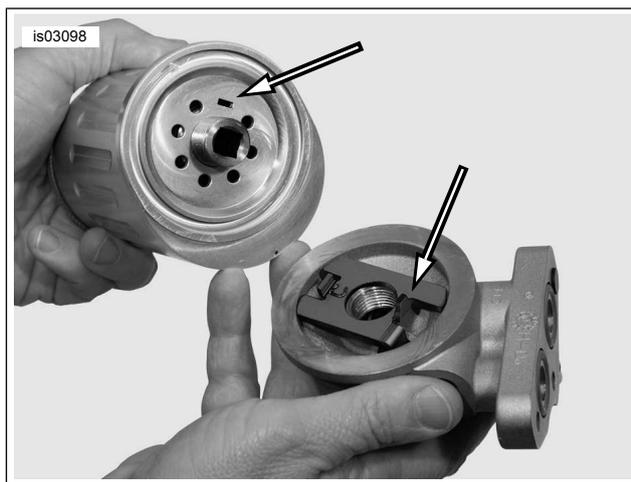
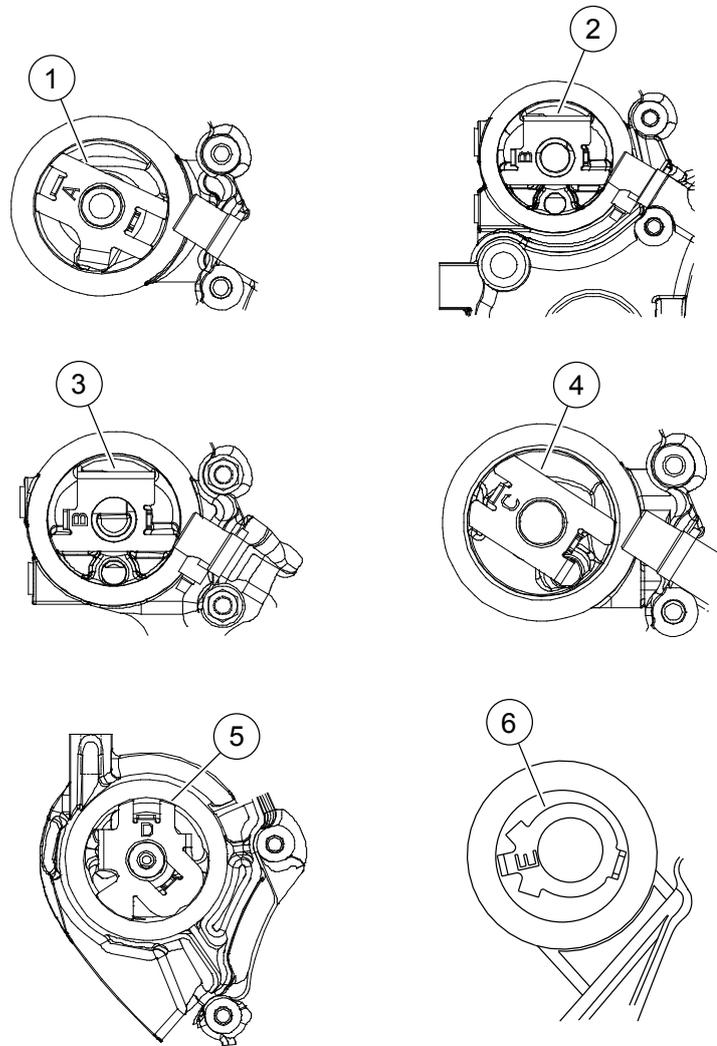
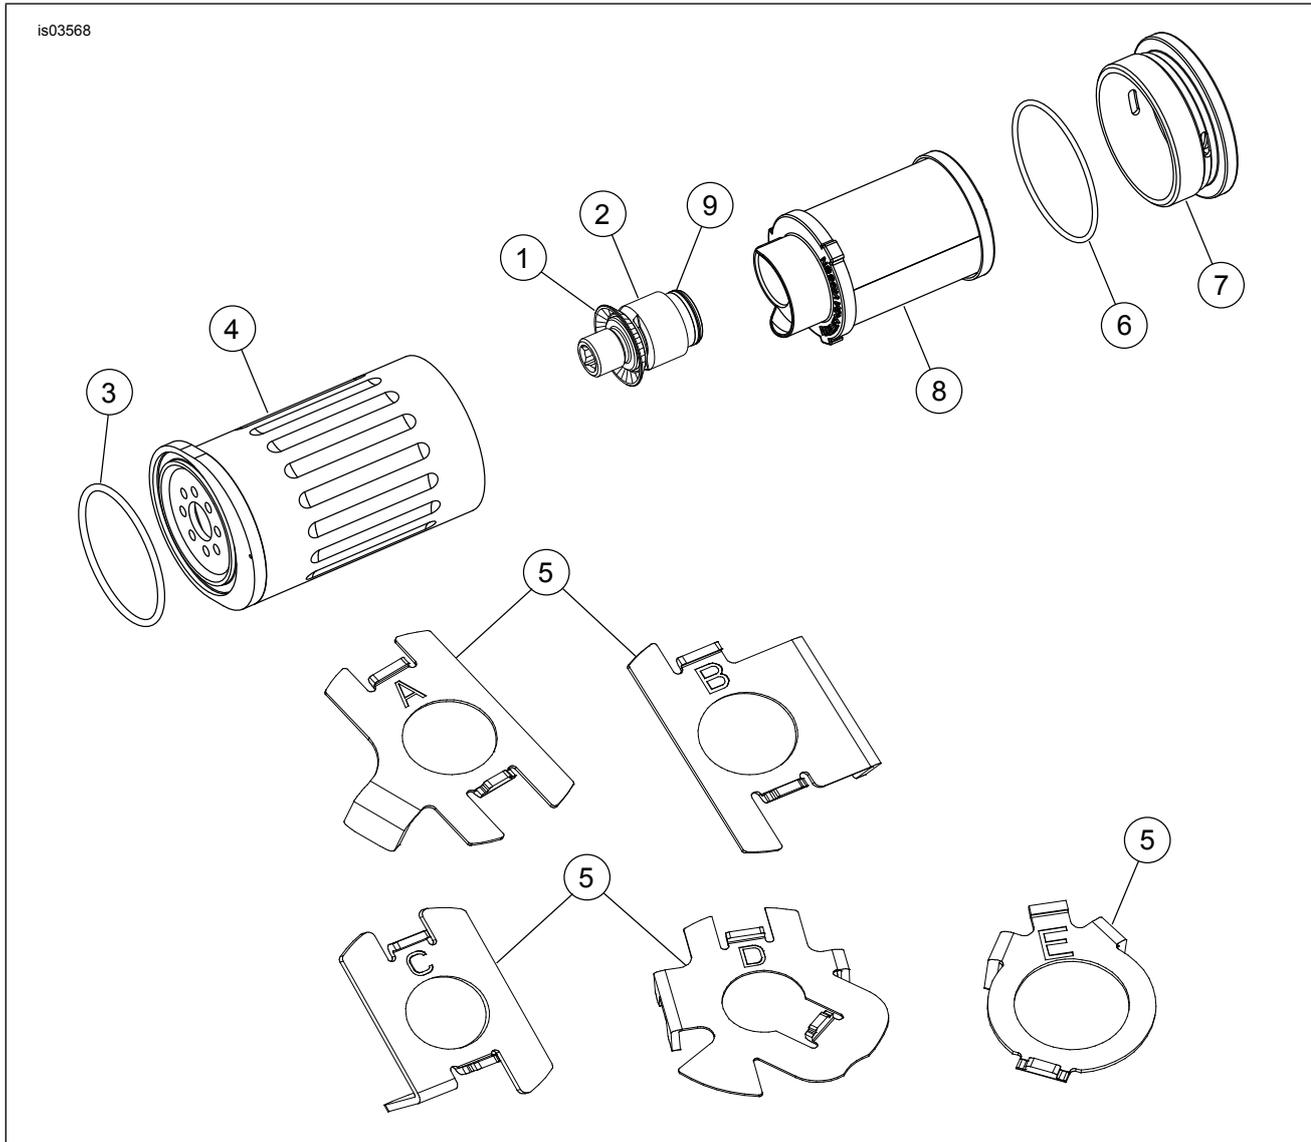

Figure 3. Oil Filter Housing/Anti-Rotation Device Alignment
Figure 4. Anti-Rotation Device Orientation
Figure 5. Service Parts: Definitive5 Filtration System Kits
See Figure 5 and Table 4.
1. See Figure 5. Lubricate anti-backflow valve (1) from kit with clean oil, then place in groove on threaded adapter assembly (2).
2. Check if anti-backflow valve (1) is seated properly in groove of threaded adapter assembly (2).
- b. After installed, check that the outer lip of the anti-backflow valve contacts the inner base of the oil filter housing (4).
3. Lubricate O-ring (3) with clean engine oil, then place O-ring in groove of oil filter housing (4).
4. Select appropriate anti-rotation device (6) for your model motorcycle.
5. Place anti-rotation device (6) into oil filter base. See Figure 4 and Table 3 for proper orientation.
6. Apply Loctite (12) to bond threaded adapter assembly (2) to oil filter mounting housing (4).
7. Place threaded adapter (2) inside oil filter housing (4).
See Figure 5 for Steps 9 through 13.
8. See Figure 3. Align slotted hole on bottom of oil filter housing (Figure 5, Item 4) with tab on anti-rotation device (Figure 5, Item 6).
9. See Figure 5. Use 3/8 in. socket wrench extension (at least 7 in. long) to engage the square hole at bottom of threaded adapter assembly (2). Thread oil filter housing (4) into oil filter base. Tighten to 30 ft-lbs (40.7 Nm).
1. See Figure 5. Using the Definitive5™ cover wrench (11), loosen cover (8) and rotate until drain slots are fully visible and aligned vertically to allow draining fluid into a pan.
2. Unscrew cover and dispose of the filter element (9) according to local regulations.
3. Inspect interior of oil filter housing (4) for any solid matter and wipe clean with a lint free cloth.
1. See Figure 5. Install open end of filter element (9) onto threaded adapter assembly (2) and push gently over O-ring (10) to seat element.
2. Thread cover (8) into oil filter housing (4) until hand tight. Using cover wrench (11), continue to tighten cover until it is flush with the oil filter housing.
The engine oil filter seals, O-rings, and pin can be replaced by ordering Seal Replacement Kit 63833-07 (Figure 5, Item 13). Consult a Harley-Davidson dealer for assistance.